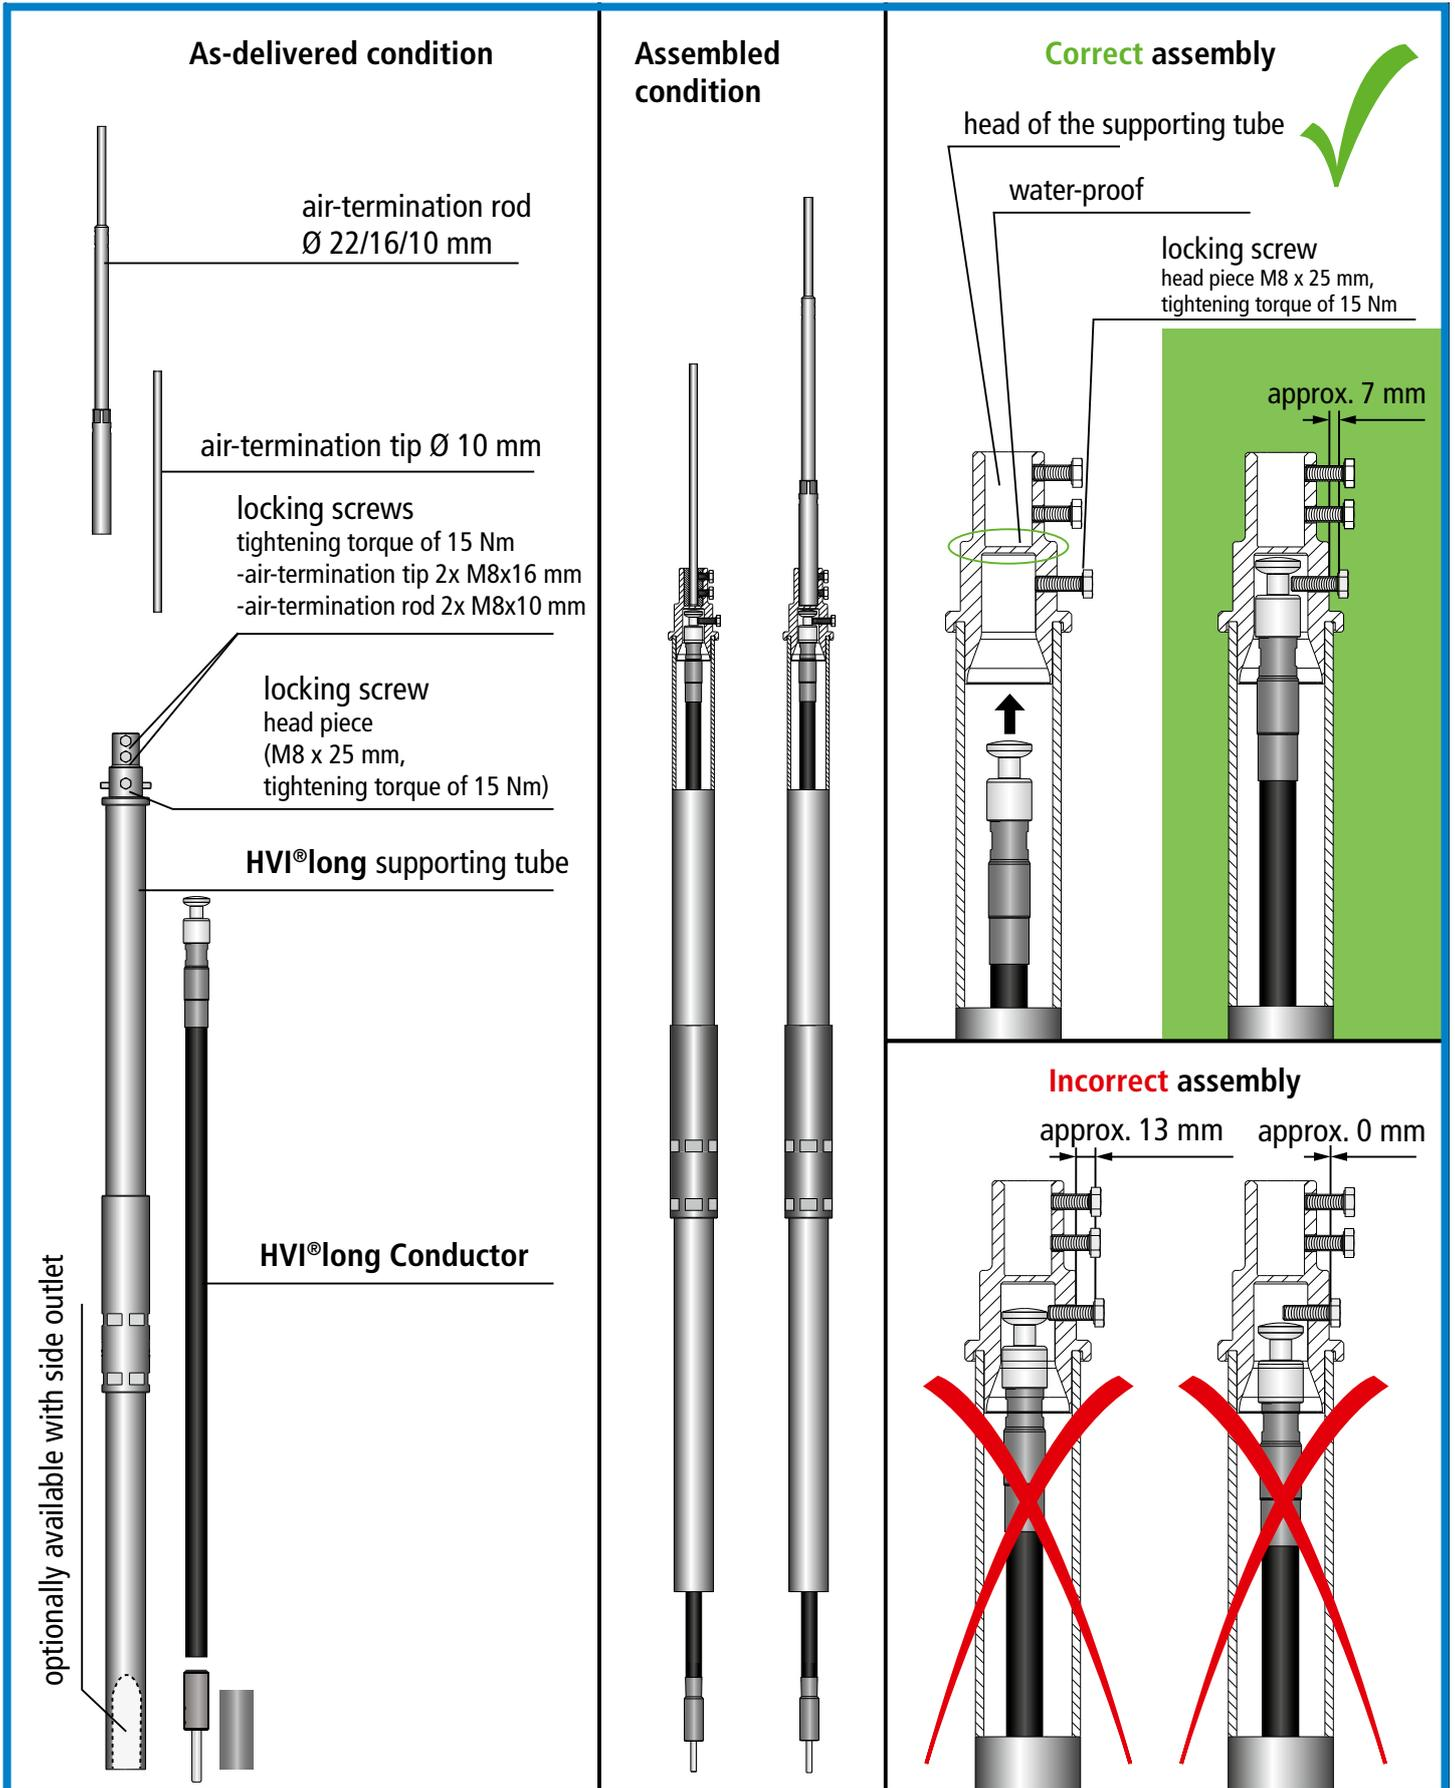

Figure 5 Installation of the head piece in the supporting tube
Before installing the supporting tube, insert the fixed head piece of the pre-assembled **HVI®long Conductor** into the supporting tube and fix it (see also Fig. 5, page 21).
- ➔ Check whether the **HVI®long Conductor** is properly fixed in the supporting tube (see Fig. 5). Proper installation can be verified by slightly pulling the conductor at the point where the conductor leaves the supporting tube.
- The locking screw on the side of the head of the supporting tube for the head piece of the **HVI® long Conductor** must be completely tightened (see also Fig. 5, page 21). Installation may not be possible if the screw protrudes too far from the head of the supporting tube.